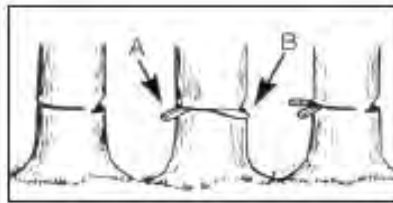

Fig.5
1. Use wooden or plastic wedges (A) to prevent binding the bar or chain (B) in the cut (Fig. 5).